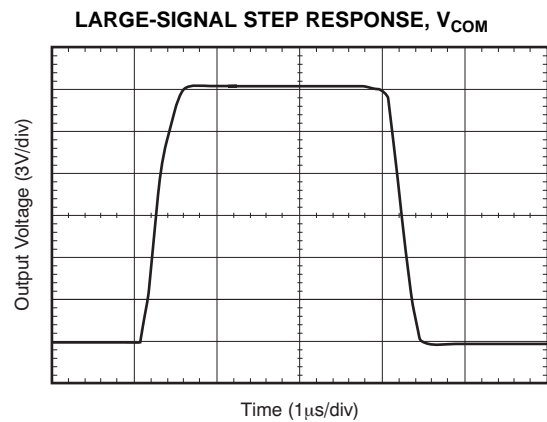

Figure 12.
(1) The BUF08832 V_{COM} DAC limits can be programmed. These default limits apply if the device is not programmed. See the Programmable V_{COM} Limit Section.
(2) See Figure 12, *Large-Signal Step Response, V_{COM}* .
(3) Observe maximum power dissipation.